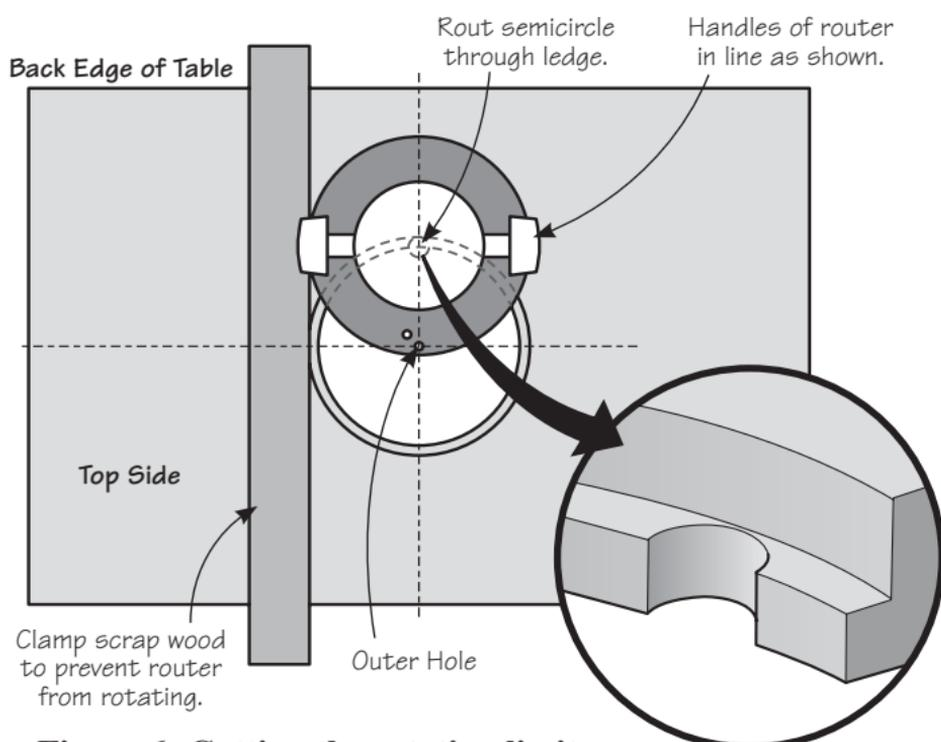

Figure 6: Cutting the rotation limiter.
8. Before removing the router, rotate it until the bit is pointing at what will become the back edge of the top, and plunge the bit down, going through the table top (see **Figure 6**). Because the router may have a tendency to rotate counterclockwise when making this cut, we suggest either clamping the router in place or clamping a wooden bar against the side of the base plate to the table top to prevent this.